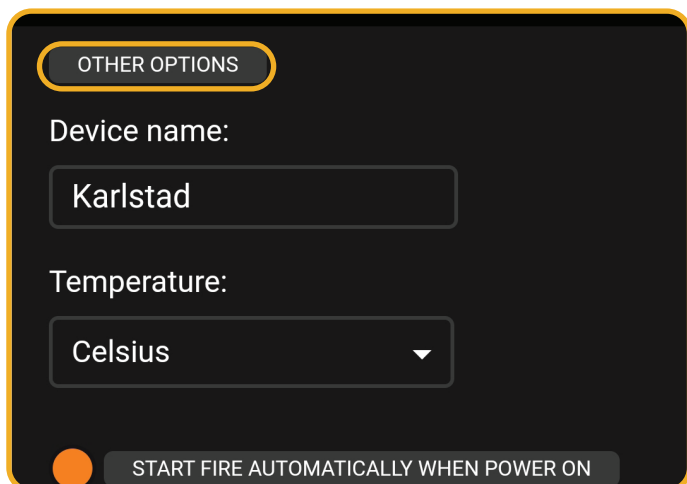

Figure 12.3 | Press 'Other options'
- In settings selected 'other options'. See Figure 12.3